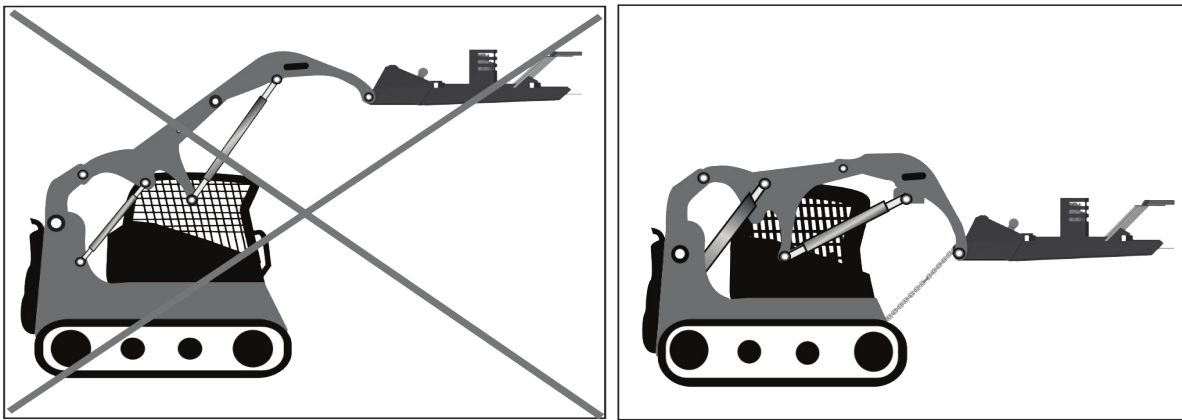

Figure 3.2c - Safety Chain
7. Install the safety chain so the cutter deck is below eye level of the operator while seated in the operator's seat. You should not be able to see the blades while seated in the operator's seat. See figure 3.2c below.